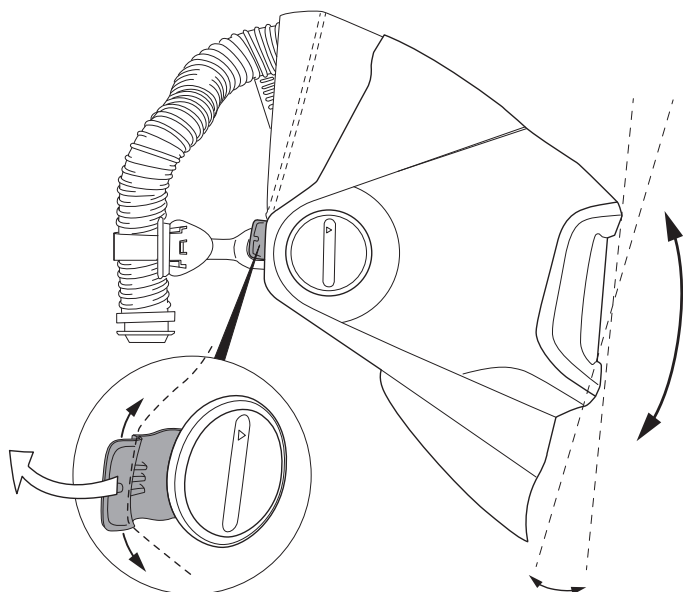

Fig. 5a
- At the right-side pivot point there is a small lever to stop the downward travel of the welding helmet. At the high position the welding helmet will come to rest so the welder can weld slightly above eye level. At the low position the welding helmet will face at a slightly downward angle (Fig. 5a). With the grinding shield in the up position, push the lever in toward the head and adjust it up or down. Bring the shield down to the stopping point to see where it rests.